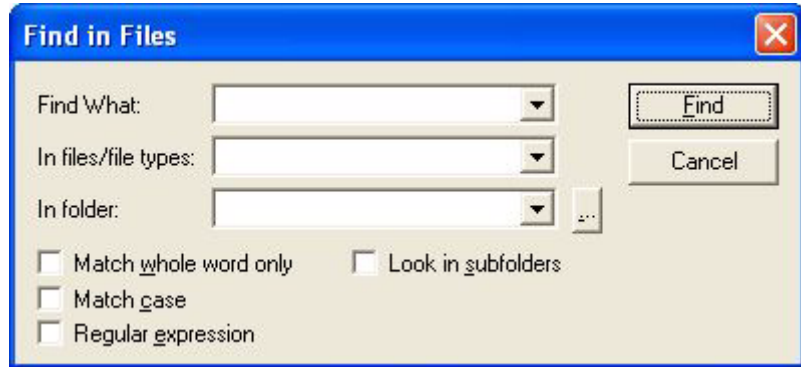

Figure 6-8. Find in Files Dialog Box
Displays the Find in Files dialog box (Figure 6-8) that provides search capability based on the criteria you specify.
- **Find in Files tab:** This tab displays output from a Find In Files process as it is generated from the results of the `Edit > Find In Files` command dialog box (Figure 6-8 on page 223).